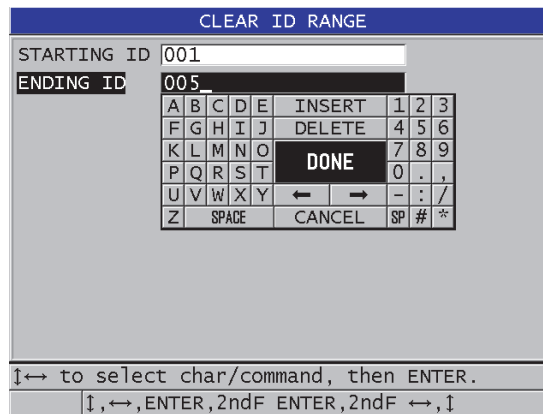

Figure 11-21 Deleting the data of an ID range in the active file
3. In the **CLEAR ID RANGE**, screen (see Figure 11-21 on page 210):